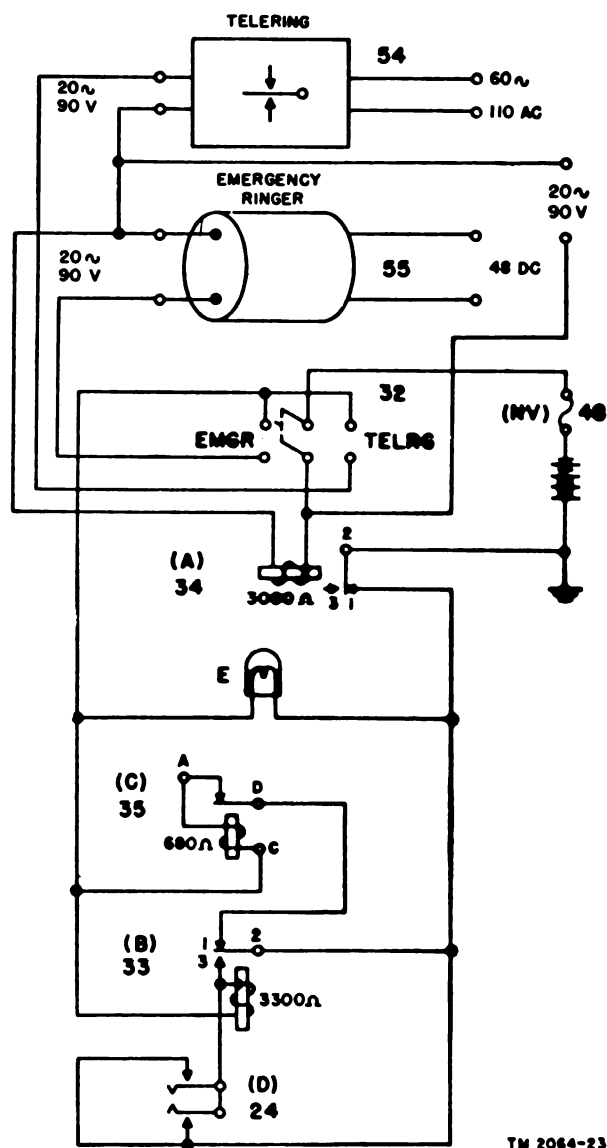

Figure 26. No voltage alarm circuit, schematic diagram.
37. No Voltage Alarm Circuit (fig. 26)
a. The no voltage alarm circuit provides an audible and visual alarm to indicate a decrease in ringing voltage to below a given value of 20 volts, 20 cycles ac. Such a drop releases the (A) relay (34), which is connected directly across the ringing voltage output. The (A) relay (34) operates the (C) buzzer (35) to sound and simultaneously causes the (E) lamp (23), mounted in parallel, to light.
b. The buzzer can be silenced by operating the (D) switch (24) which closes the (B) relay (33); this relay operates under the control of the (A) relay (34). When ringing voltage is restored, the (A) relay (34) functions to disconnect the no voltage alarm circuit from ground and to restore the circuit to its normal condition.
The Telering unit, Interrupter PE-250, is a vibrating-reed type of frequency converter for supplying power to 20-cycle ringing equipment. It operates from the 110-volt, 60-cycle a-c power lines of Panel BD-132 and supplies 80 to 109 volts, 20-cycle a-c power for ringing associated switchboards. A Telering switch (26) connects the Telering to the 110-volt a-c line on Panel BD-132. A double-pole, double-throw switch (32) marked EMGR TELRG (fig. 26), permits change-over to an emergency ringer (55) in the event that the Telering fails.